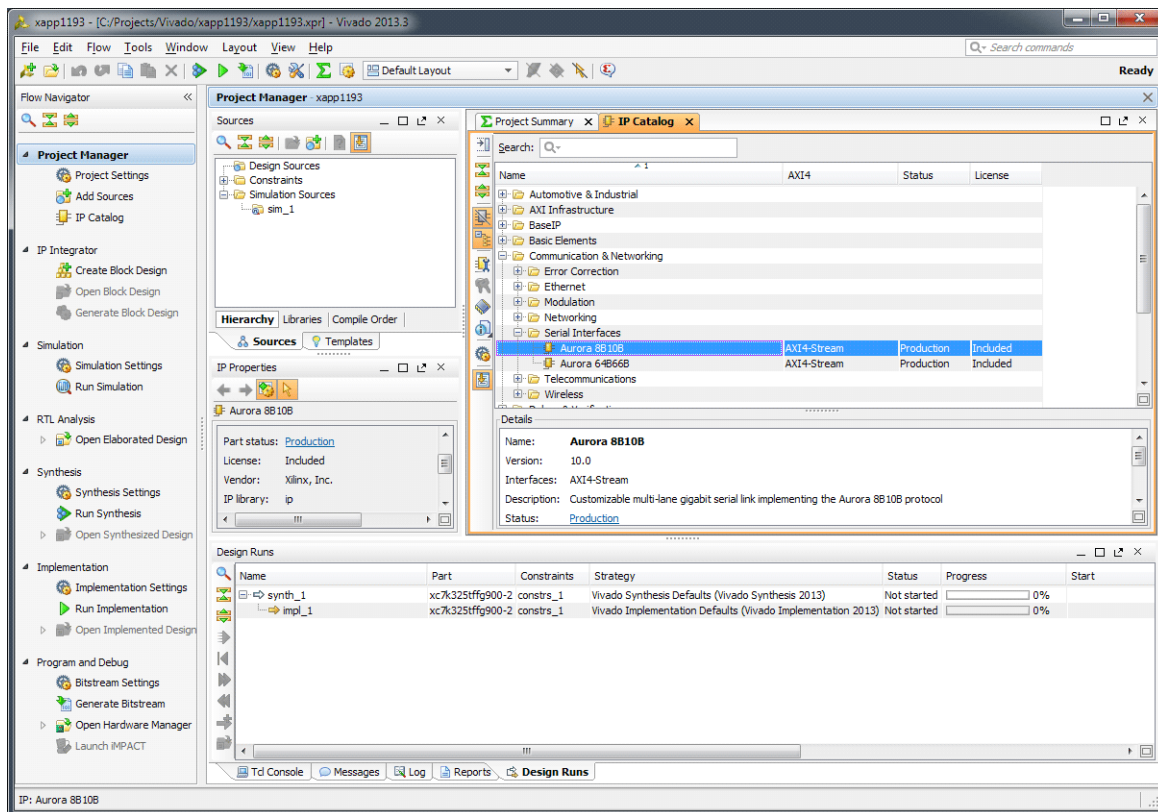

Figure 9: Aurora 8B10B in Vivado IP Catalog
7. Under Project Manager in the Flow Navigator panel, select **IP catalog** and search for **Aurora 8B10B**. The Aurora cores can be found under **Communication & Networking > Serial Interfaces**. See Figure 9.